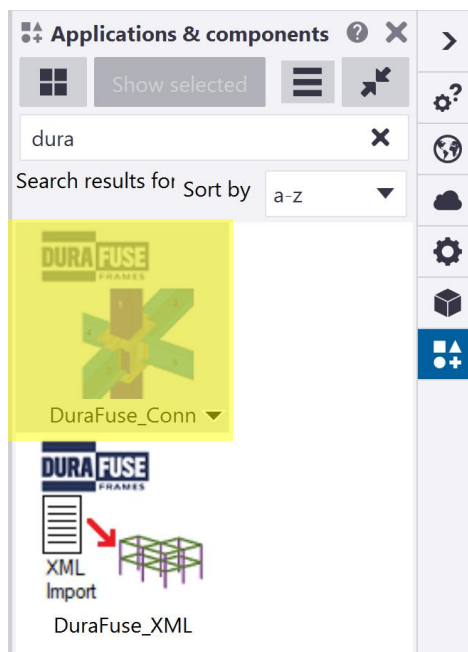

Figure 4-4. DuraFuse Frames Component in Applications & Components Catalog
2. Search for **Dura**. The component **DuraFuse_Conn** and XML Import tool, **DuraFuse_XML**, will both show up (Figure 4-4).